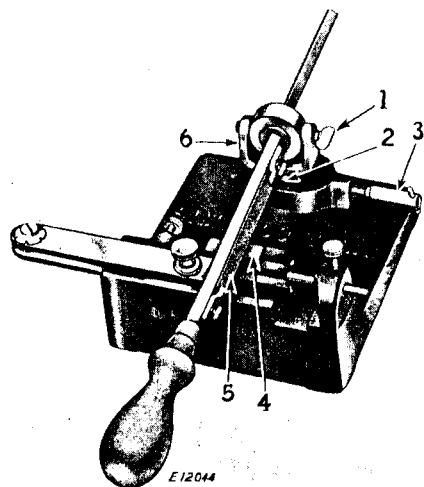

Fig. 25. Setting Hone at Proper Angle
To set the hone at the proper angle, loosen the wing screw (1, Fig. 25), rest the stone (5, Fig. 25) flat on the leveling surface (4, Fig. 25), then tighten the wing screw (1).
Loosen the adjusting screw (3, Fig. 25) and set the yoke (6, Fig. 25) as high as it will go while the end of the adjusting screw (3, Fig. 25) remains on the flat of the yoke bushing (2, Fig. 25), then securely tighten the adjusting screw (3, Fig. 25).